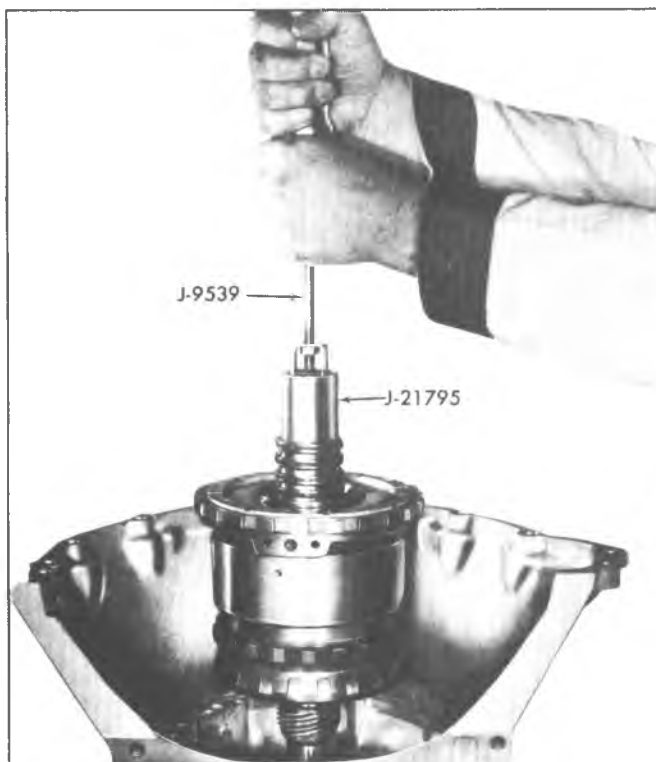

Fig. 130T--Installing Center Support and Gear Unit
9. Install complete gear unit assembly into case, using Tool J-21795 (fig. 130T).